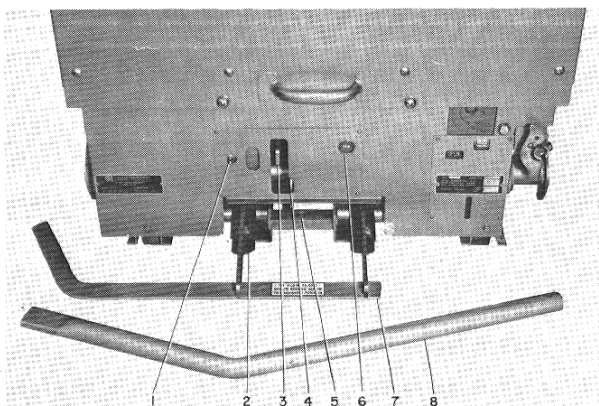

Fig. 2 — Front View of Control Panel
IF IT IS NECESSARY TO RAISE OR MOVE THE BREAKER, ATTACH THE LIFTING YOKE AT POINTS 7 (FIGURE 1), OR A FIFTH WHEEL AT POINT 5 (FIGURE 2) TO TRANSPORT THE BREAKER AS REQUIRED.
### 3.7 MANUAL SLOW-CLOSE TO CHECK CONTACT PRESSURE (Figure 2)
### 3.10 INSTALLING CIRCUIT BREAKER INTO COMPARTMENT (See Figures 2 and 4)
1. Turn motor disconnect switch (if supplied) (1) Figure 2) to "OFF" position.
3. Engage fifth wheel with hole guide (5, Figure 2) and push circuit breaker into compartment until stopped. (If closing springs were left in charged condition, they will automatically discharge.)
6. With the circuit breaker racked to "TEST" position, check for proper operation by operating all possible means of opening and closing. This includes control switches, relays, etc. Turn motor disconnect switch (1, Figure 2) to "ON" position to charge the closing springs, and operate the breaker as required. If motor disconnect switch (1, Figure 2) is not provided, springs will automatically charge when approaching "TEST" position.